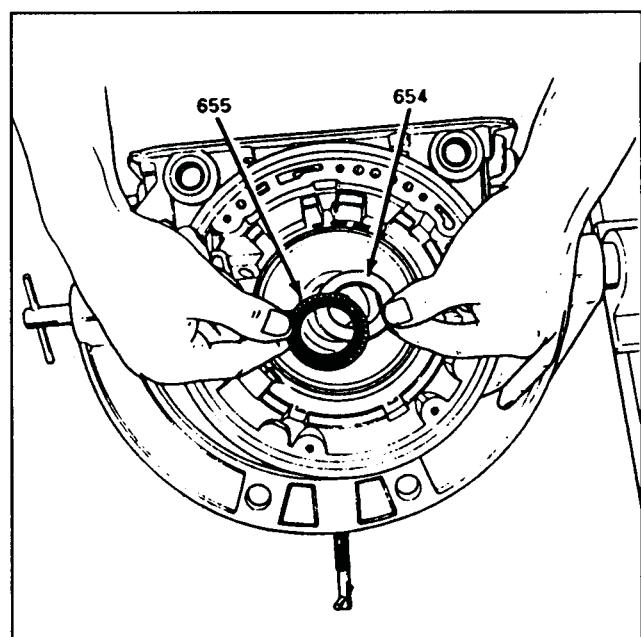

Figure 89
4. Install the rear thrust bearing race, with the inside lip facing up, in the main case and retain with petrolatum. (See Figure 89).
5. Install the rear thrust bearing on top of the bearing race, and retain with petrolatum (See Figure 89).